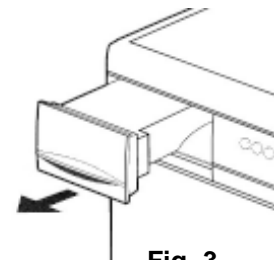

Fig. 3
1. Slowly and carefully remove the tank (Fig. 3). Be careful not to tilt the unit and let water spill out.